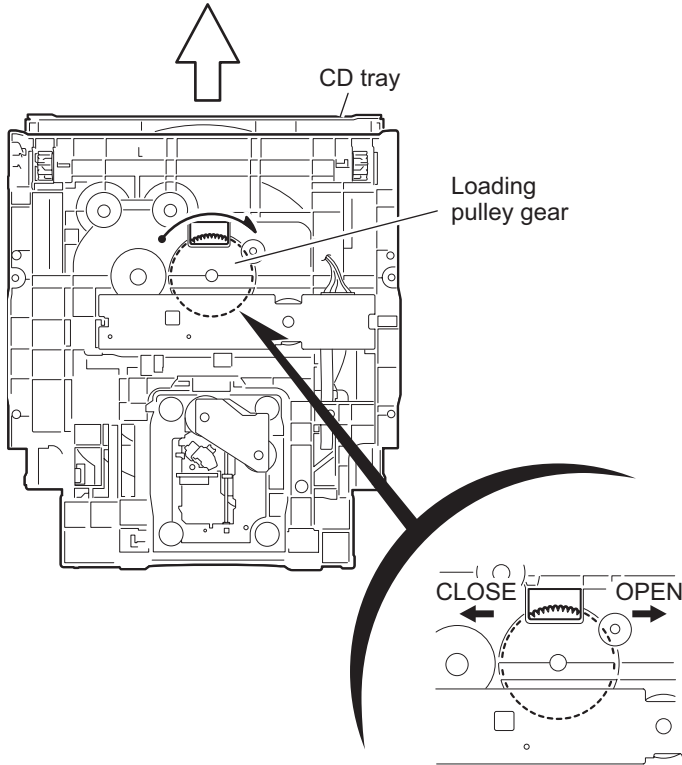

Fig.39
3.3.1 Removing the CD tray (See Fig.39~45)